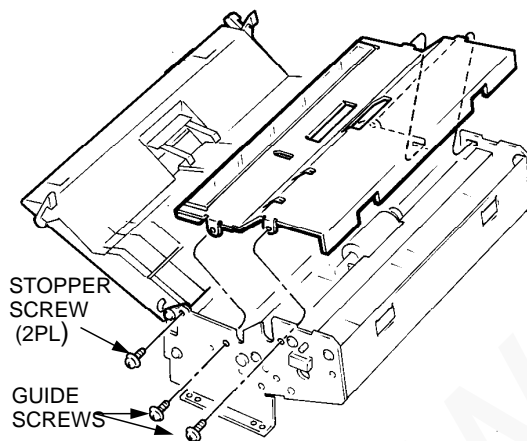

Figure 1. guide
- a. Remove the two screws (figure 1).